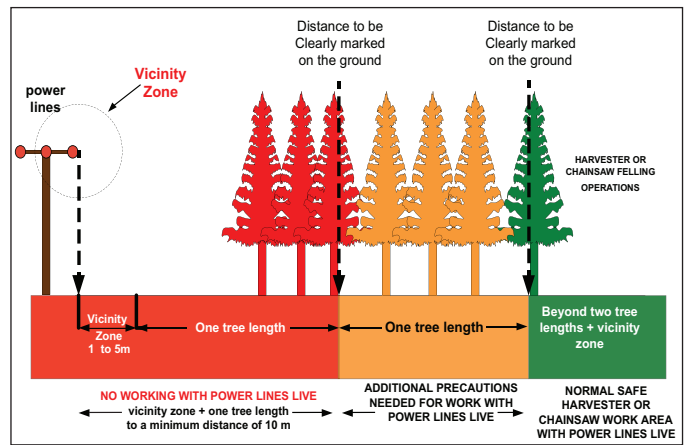

Figure 2: Red/Amber Zones (Uniform height crop)
- 40** These zones are illustrated in *Figures 2, 3 and 4* and defined as: